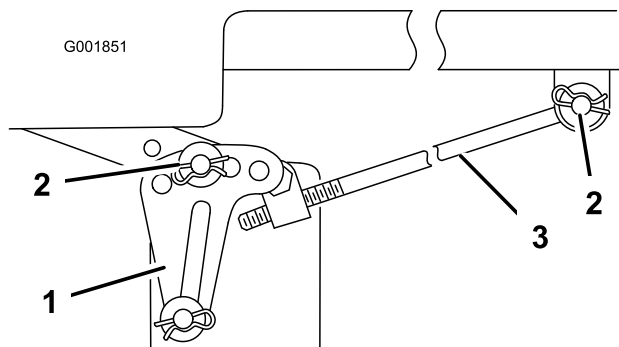

Figure 59
Note: Before removing the mower, make a note for which holes are used in the leveling brackets (Figure 59).
- Remove the hairpin cotter and washer from the adjusting rod (Figure 59) on each side of the mower.
- Remove the hairpin cotter and washer at the mower leveling brackets (Figure 59) on each side of the mower. Note which hole the leveling bracket is mounted in for future installation. Slide the brackets off of the mounting pin.
6. Attach the adjusting rod to the machine with the washer and hairpin cotter (Figure 59) on each side of the mower.
7. Slide the leveling brackets onto the mounting pins and secure them with the washers and hairpin cottes (Figure 59).